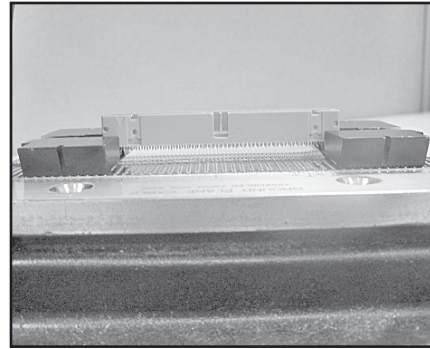

Figure 7
- 4.3 Place the cable/cover sub-assembly between the guides on the locator plate, cover side sown. (Figure 7).
- 4.4 Position and orient connector body, contacts down, over the cable/cover sub-assembly, aligning cover with the body slots. (Figure 7).